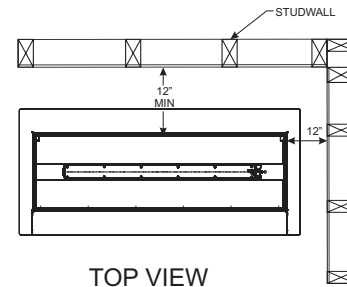

Figure 6
- With walls on back and one side, but with no overhead cover. See Figures 6.
NOTICE: For installations with a rear wall and side wall, refer to **Figures 6 and 9.**